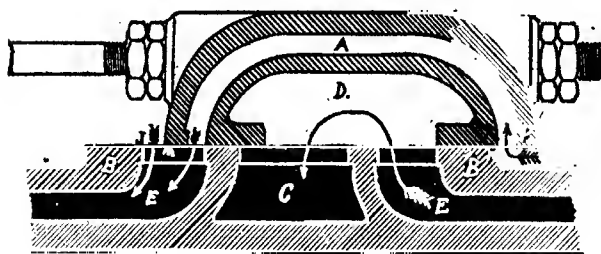

FIG. 70.—ALLEN VALVE.
**The Allen Valve.**—This valve is a modification of the plain D valve, being double ported. The double-ported valve is used in engines which are to be operated at a high speed or where it is desirable that there be a quicker opening and closing of the ports than can be obtained with the ordinary valve. This valve illustrated in Fig. 70 has a passage A cast in the valve. The shoulders BB of the valve seat are so constructed that when the edge m of the valve is just even with edge J of the port, the outer edge p of the passage A will be just even with edge n of the shoulder B at the outer edge of the valve seat. When the